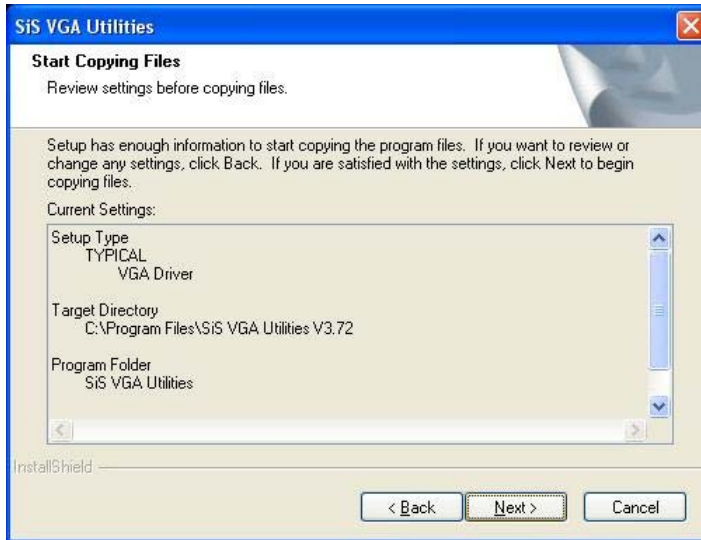

Figure 6-24: Review Settings
Step 4: The **Start Copying Files** screen appears (**Figure 6-24**). Review the selected settings and click **NEXT** to continue the installation.